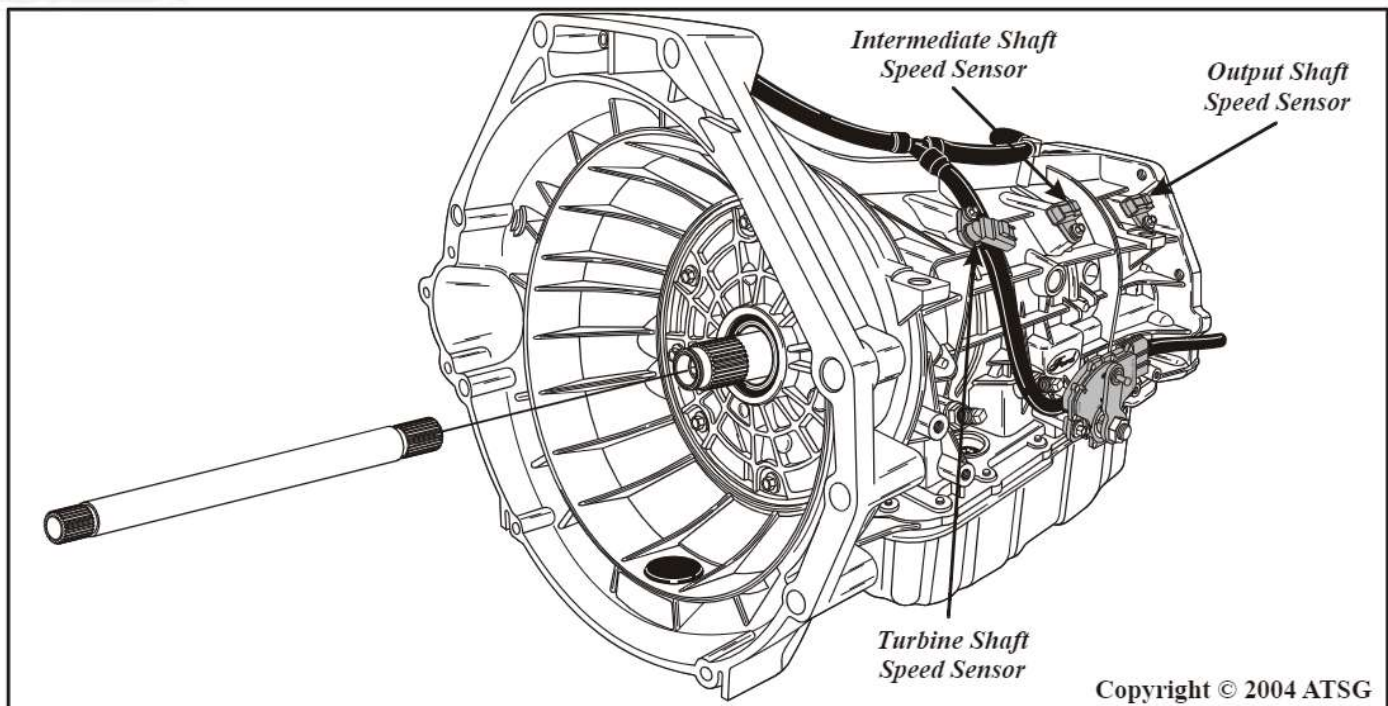

Figure 23
1. Remove the turbine shaft from the transmission as shown in Figure 23. Inspect the spline area on both ends and set aside for final assembly.
2. Remove the Turbine Shaft Sensor (TSS), the Intermediate Shaft Sensor (ISS) and the Output Shaft Sensor (OSS) from the transmission case, using a 30 Torx bit for the retaining bolts. (See Figure 23).